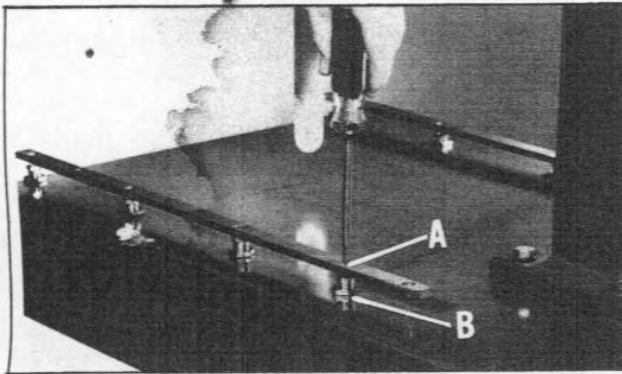

Fig. 12
6. If an adjustment is necessary, remove screw (A) and loosen locknut (B) Fig. 12.